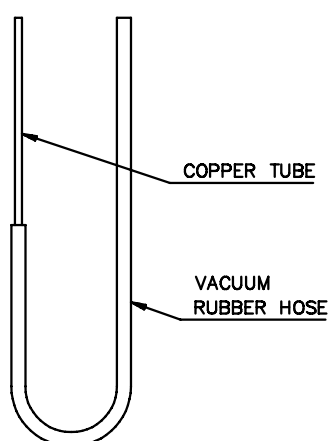

Fig. 7-7.
(refer to Fig. 7-7.)
(Refer to Fig. 7-7.)
- (3) Procedure
- (a) Pour pure water into one vacuum rubber hose in order to remove air in the vacuum rubber hose. (Refer to Fig. 7-7.)